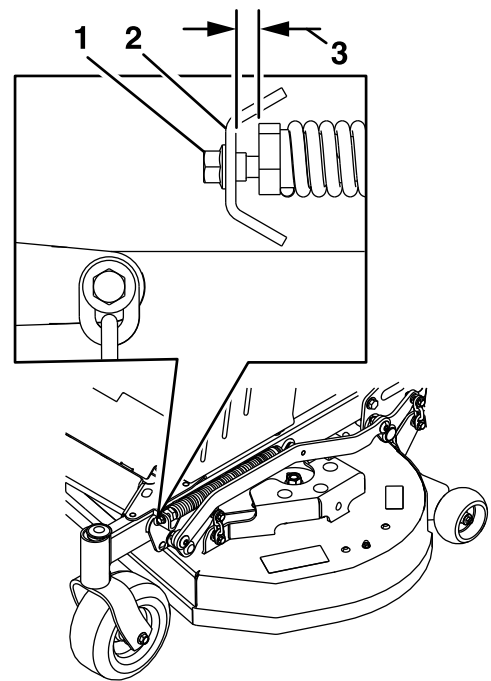

Figure 32
10. Slowly loosen the adjusting screw on the lift assist spring until the screw can be removed (Figure 32). Save the screw for reinstallation.